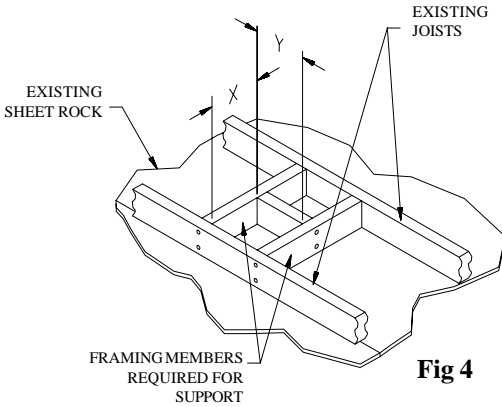
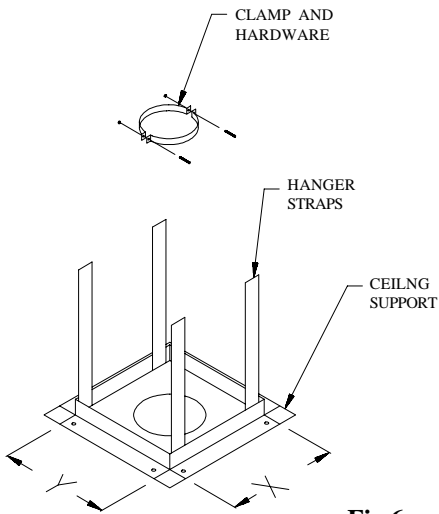

Fig 4
Fig 6
3. **Ceiling Support.** For a ceiling supported system, install the **Square Firestop/Support** as shown in Figures 6, 7, and 8. The **Firestop Support** must be framed in and the dimensions are shown in Table 1 and shown in Figure 4.